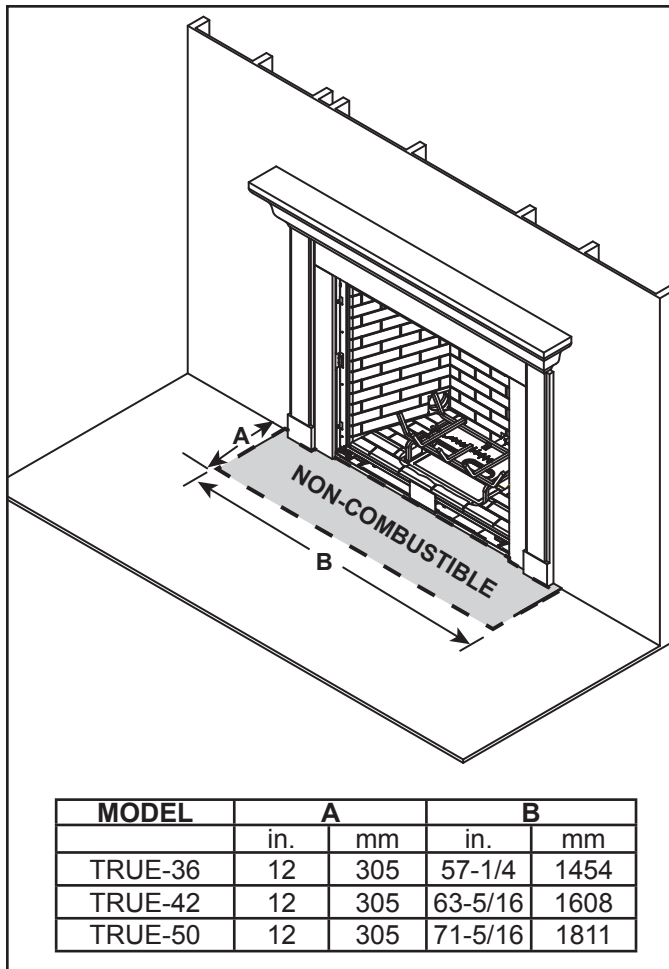
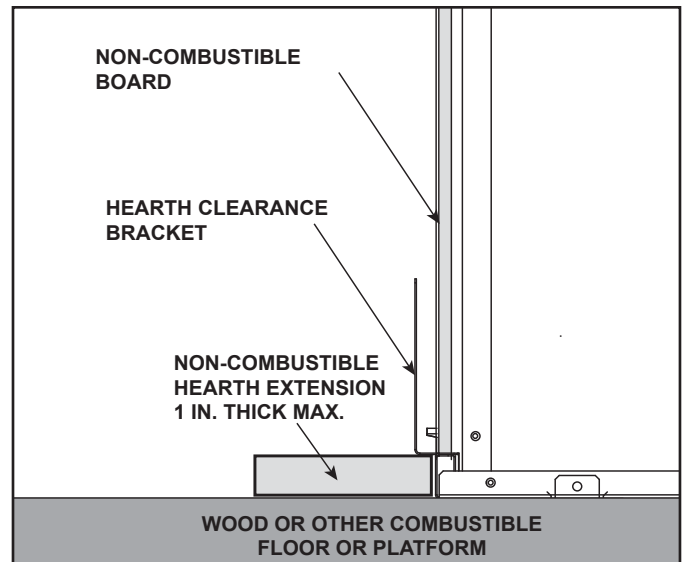
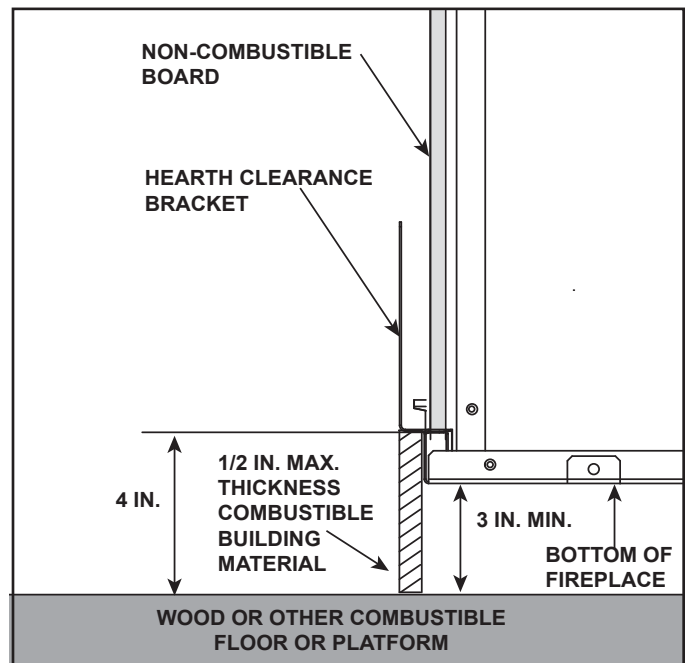

Figure 3.9 Non-Combustible Hearth Extension Dimensions
Figure 3.10 Appliance Installed on Combustible Surface
Figure 3.11 Appliance Raised a Minimum of 3 Inches Above
- Hearth extension must be non-combustible and serves to protect combustible floors in front of appliance. See Figure 3.9 and Figure 3.10.
- The base of the fireplace may sit on a combustible surface. See Figure 3.10. The area in front of the appliance must be protected by a non-combustible hearth extension, unless the appliance is raised a minimum of three inches above the combustible floor or hearth. See Figure 3.10 and Figure 3.11.
- If a hearth greater than one inch in thickness is desired, the appliance must be raised by the equivalent height to ensure that the hearth extension does not interfere with the installation of the glass assembly required for fireplace operation. See Figure 3.10.